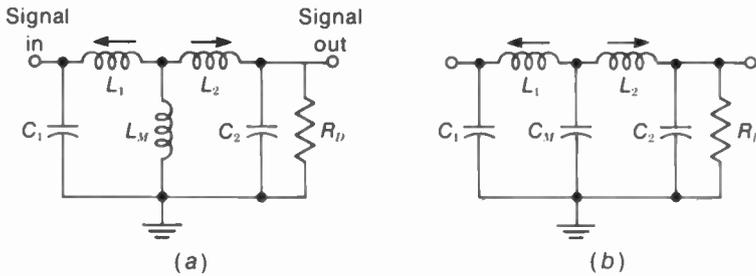

FIGURE 23-10 IMPEDANCE COUPLING WITH DOUBLE-TUNED CIRCUIT. (a) INDUCTIVE COUPLING WITH  $L_M$ ; (b) CAPACITIVE COUPLING WITH  $C_M$ .
**Impedance coupling or bandpass coupling.** Examples of using a common impedance  $Z_M$  for mutual coupling between two tuned circuits are shown in Fig. 23-10. This method is also called *bandpass coupling* because it usually has the bandwidth of an overcoupled double-tuned transformer. In Fig. 23-10a, the coil  $L_M$  is common to both tuned circuits with  $L_1 C_1$  and  $L_2 C_2$ . As a result, signal voltage across  $L_M$  from one tuned circuit is coupled into the other. In Fig. 23-10b, capacitive coupling is used, with  $C_M$  common to both tuned circuits. In both circuits,  $R_D$  is a damping resistor to provide the required bandwidth.